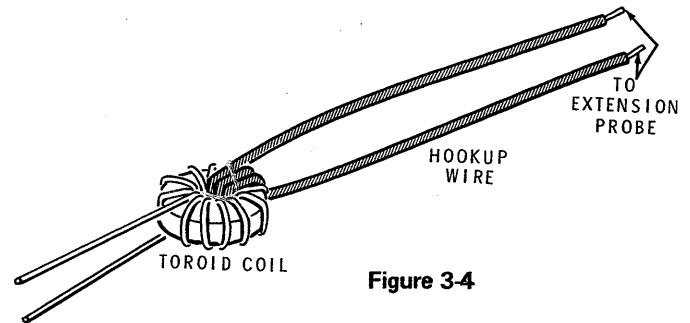

Figure 3-4
2. Connect the extension probe to several loops of wire wound around the core of the coil. A magnetic flux will be picked up in the special-wound link and coupled to the Dip Meter. See Figure 3-4.